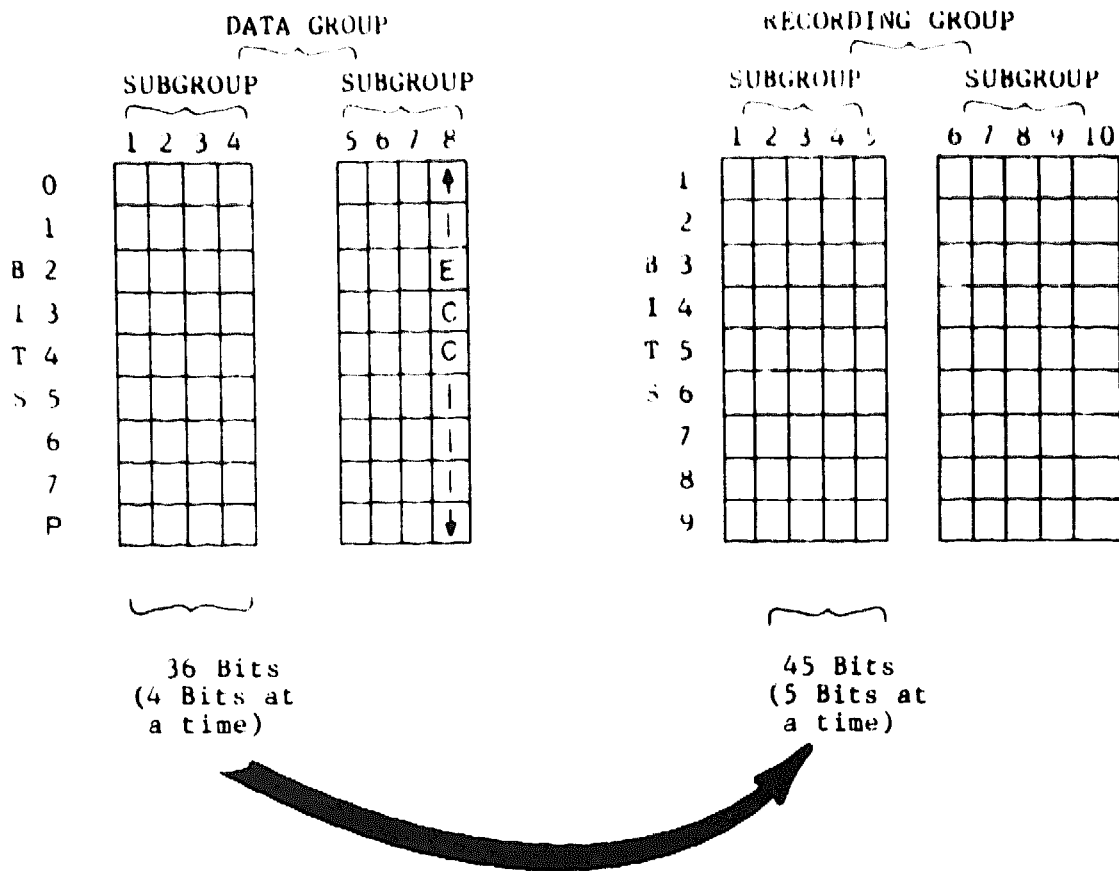

Figure 4-25. GCR CONVERSION
4.9.2.2 GCR Data Conversion - GCR (Group Coded Recording) is a coding scheme rather than a recording mode. The GCR scheme translates an 8-byte data group, comprising two 4-byte subgroups, into a 10-byte recording group, comprising two 5-byte subgroups. The first data subgroup converted contains 4 data bytes; the second data subgroup converted contains 3 data bytes and an Error Correcting Code (ECC) (see Figure 4-25). Note that in the 5-bit GCR conversion of the 4 data bits, there are no more than two contiguous 0's and no more than a single 0 at either end of the 5-bit string (see Figure 4-26). This scheme yields a more narrow band-width and better synchronization capability.
The ECC character, which contains 8 bits, is generated as the 8th byte of a data group (see Figure 4-25). By means of the ECC character, single track errors can be detected and corrected "on-the-fly" without the need of track pointers. The ECC character also detects double track errors, but requires the aid of dead track pointers and phase error pointers to correct the errors. These pointers use the same methods to identify the tracks as in PE error detection.